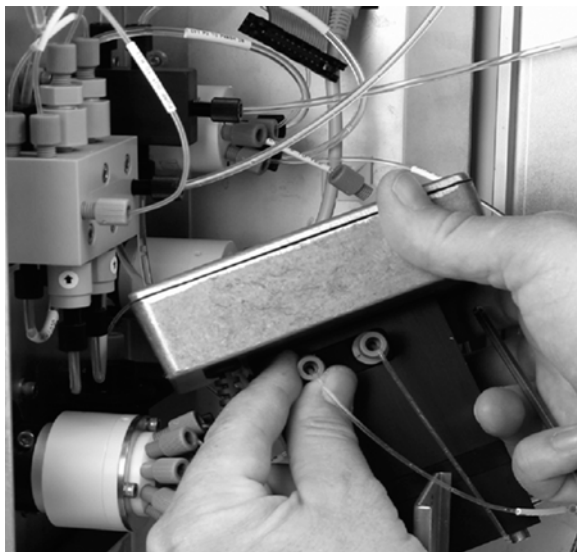

Fig. 13.21. Removing the two bottom fittings of the flow cells.
5. Turn the UV monitor on its side and remove the two fittings from the bottom (Figure 13.21); mark these so they can be reconnected to the proper flow cell.